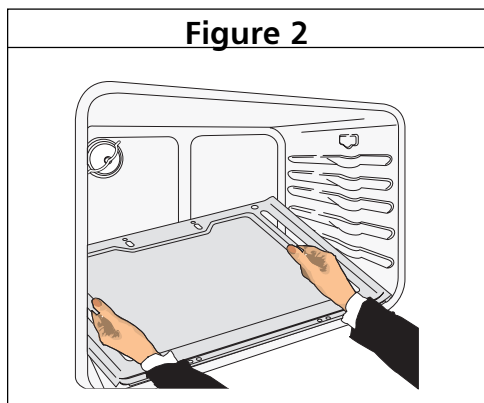

Figure 2
3. To lift out the bottom panel, place fingers in the slots in the bottom. Lift the rear of the panel up and back until it is clear of the lip at the front of the panel (Figure 2).